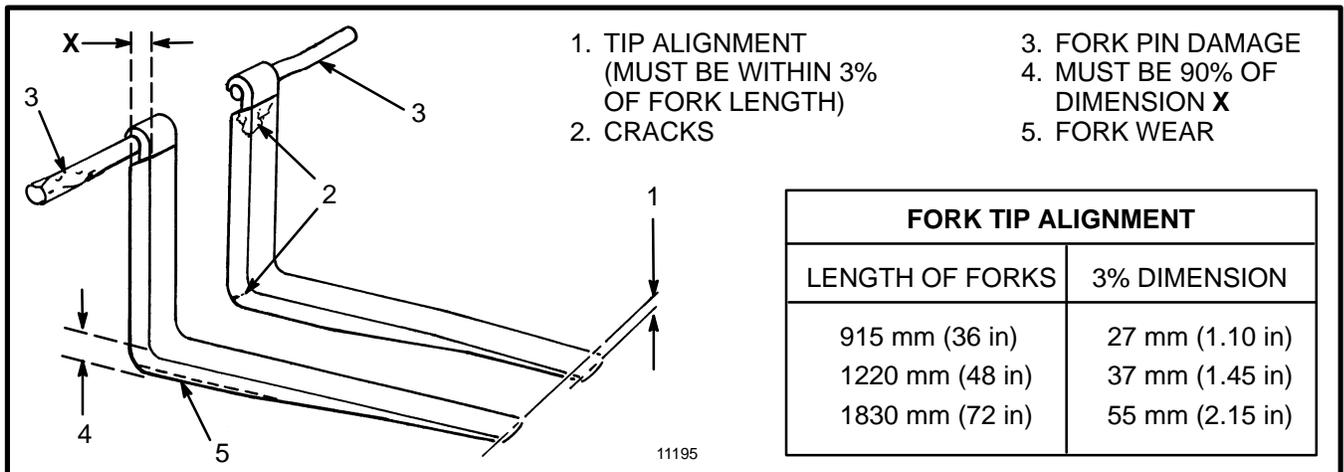
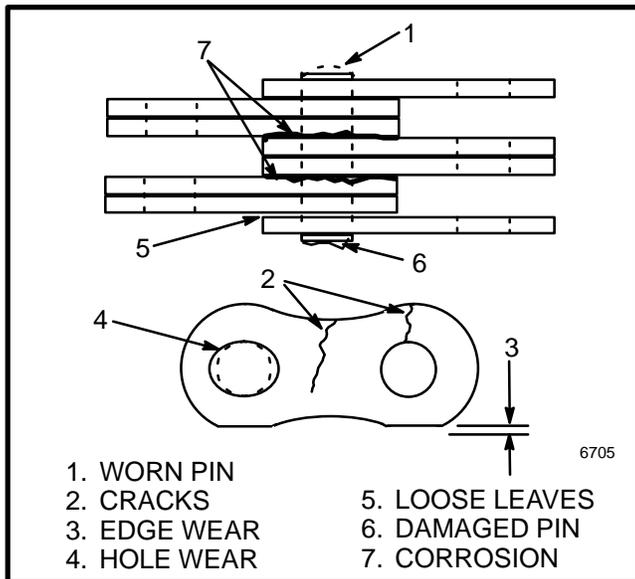

FIGURE 14. CHECK THE FORKS
FIGURE 15. CHECK THE LIFT CHAINS
(See FIGURE 14. and FIGURE 15.)
4. Inspect the forks for cracks and wear. Check that the fork tips are aligned within 13 mm (0.5 in) of each other. (See FIGURE 14.) Check that the bottom of the fork is not worn (Item 5).
8. Inspect the lift chains for cracks or broken links and pins. (See FIGURE 15.)